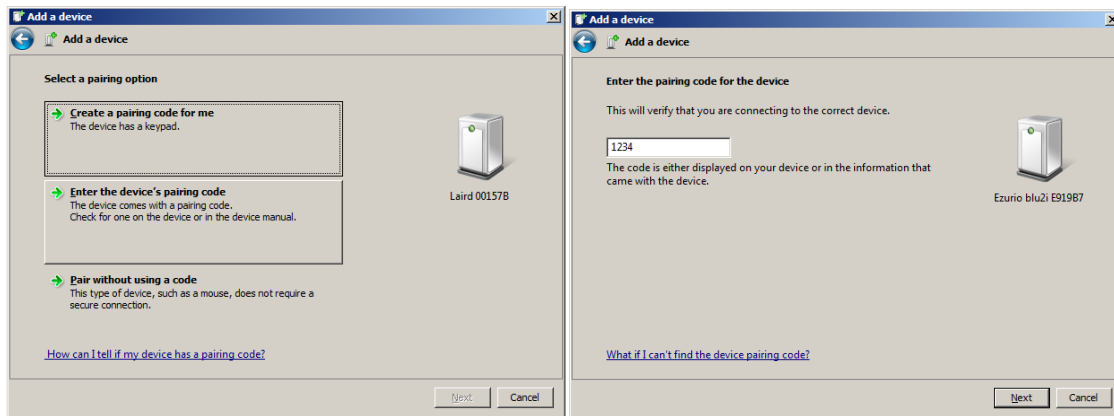

Figure 15: Select Enter the device's pairing code
4. Select Enter the device's pairing code (Figure 15). This code was set to "1234" using the command AT+BTK="1234" in Preparation.